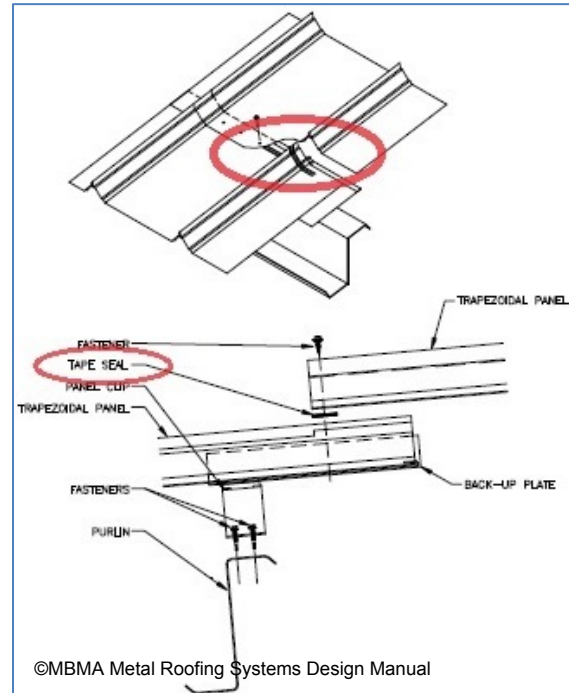

Figure 13-13
**13.6.2 End Lap (Figure 13-13)**